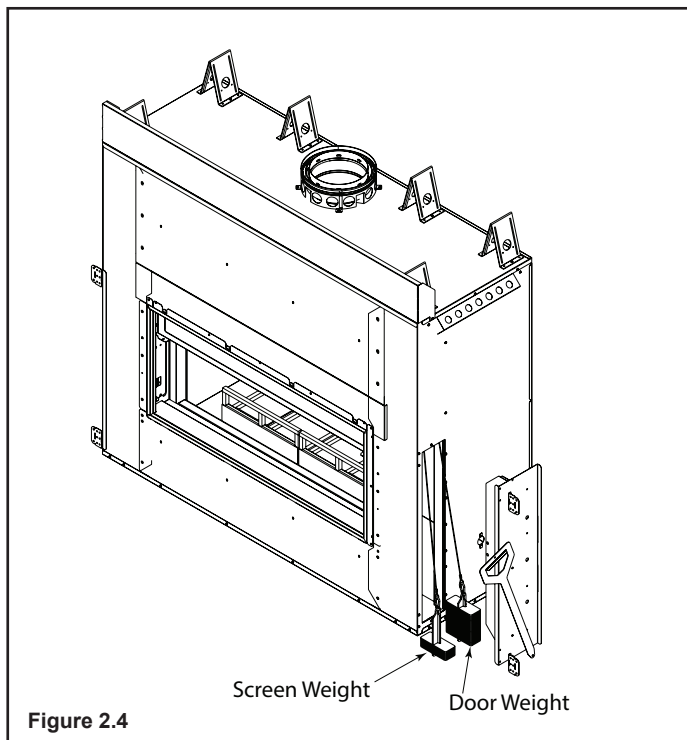

Figure 2.4
- k. Repeat for the other side. See Figure 2.4.